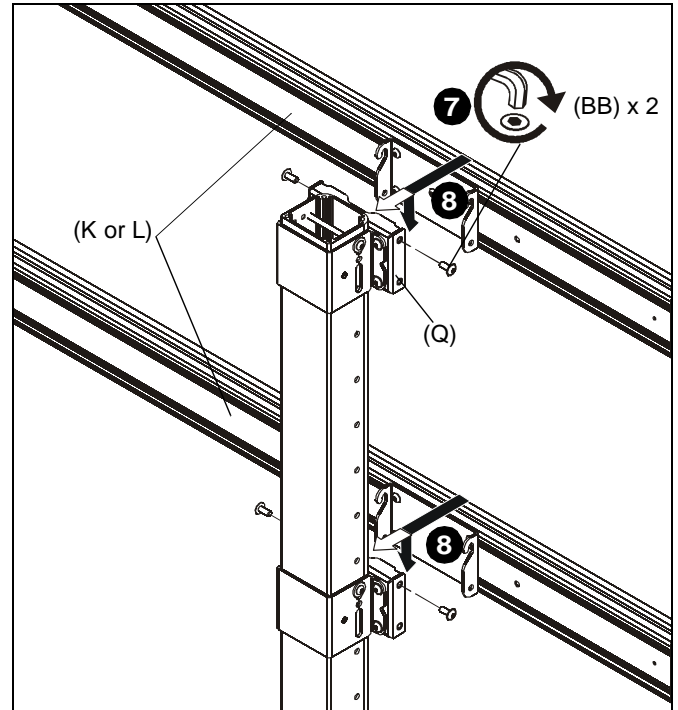

Figure 9
- Install two 5/16-18 x 3/4" button head flange screws (BB) into the top holes on each quick connect base (Q). (See Figure 9)
- Hang rails (K or L) into screws installed in previous step to quick connect bases (Q). (See Figure 9)